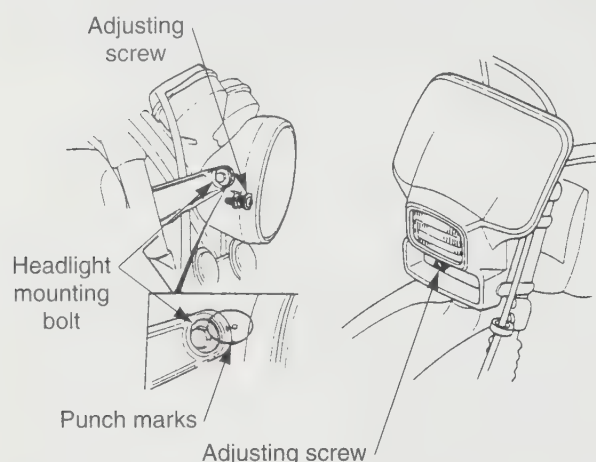

Figure 17-6. Adjusting a motorcycle headlight assembly. (Honda Motor Co., Ltd.)
1. Vertical adjustment. With the headlight on high beam, the brightest point of light should be 2" (50.8 mm) below the horizontal mark at a distance of 25' (7.62 m). To typically make a vertical adjustment, loosen the headlight mounting bolts, matching the punch mark on the case and the bracket by moving the headlight up or down, **Figure 17-6**. Some motorcycle headlights have an adjusting screw on the bottom. In this case, turn the screw to make the vertical adjustment.